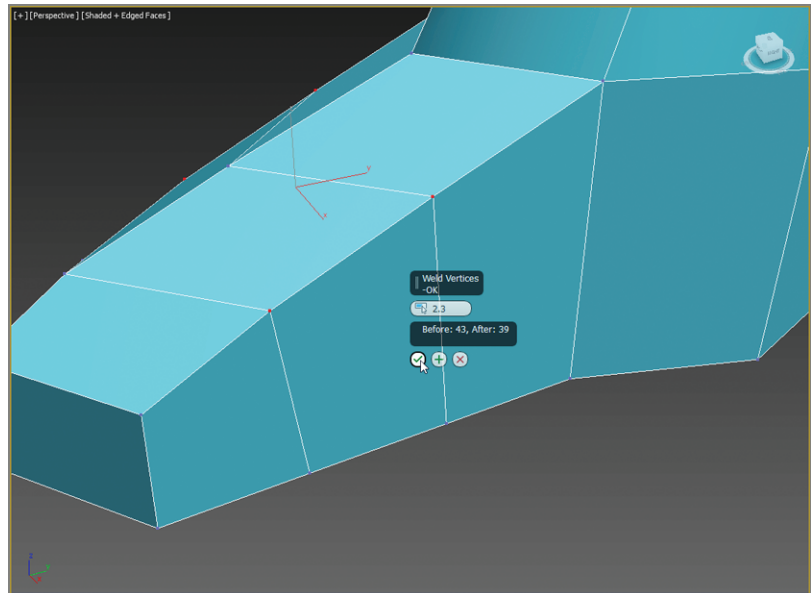

FIGURE 8.22 With the vertices selected, use Weld to close the gap the previous step created.
15. Switch to Vertex mode, and select the vertices on the top/side of the foot and the top vertices from the newly created bridge polygons. From the Graphite Modeling Tools tab > Vertices > Weld, open the caddy, set Weld Threshold to 2.3, and click OK, as shown in Figure 8.22.